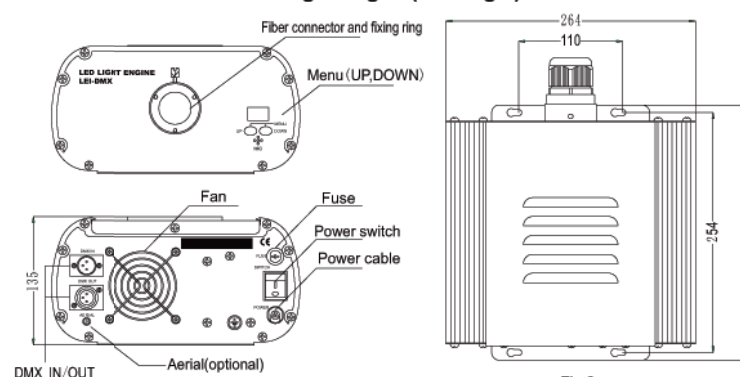

Fig.3
C. Installation dimension of light engine(see Fig.3):